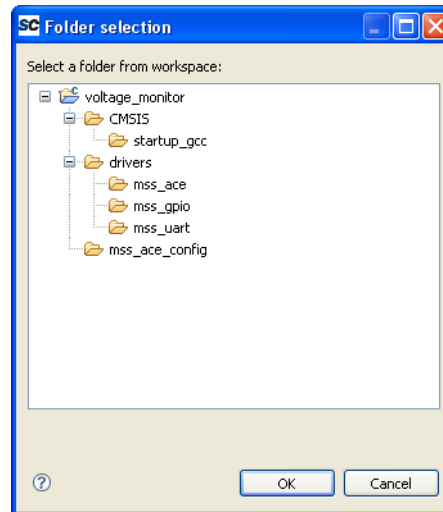

Figure 3-10 · SoftConsole Folder Selection Dialog Box
5. Click the **Workspace** button (Figure 3-10).